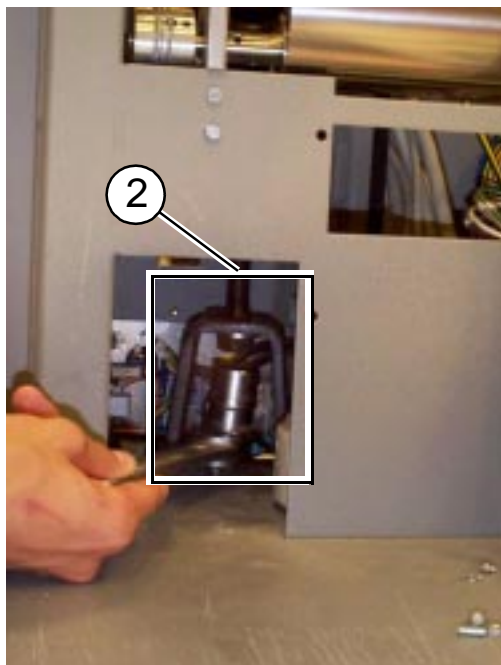

Fig. 2
5. Release the balancing spring with a ratchet wrench (see Fig. 2, pos.2).